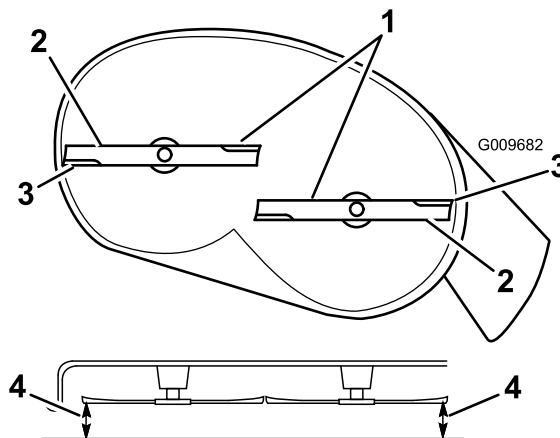
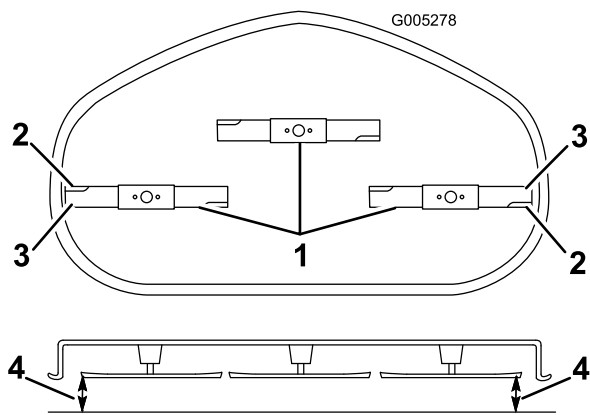

Figure 59
Figure 60
4. Carefully rotate the blades so that they are all side to side (Figure 59 and Figure 60).
- Measure between the outside cutting edges and the flat surface (Figure 59 and Figure 60). If both measurements are not within 3/16 inch (5 mm), an adjustment is required; continue with this procedure.